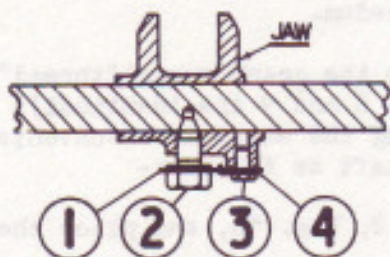
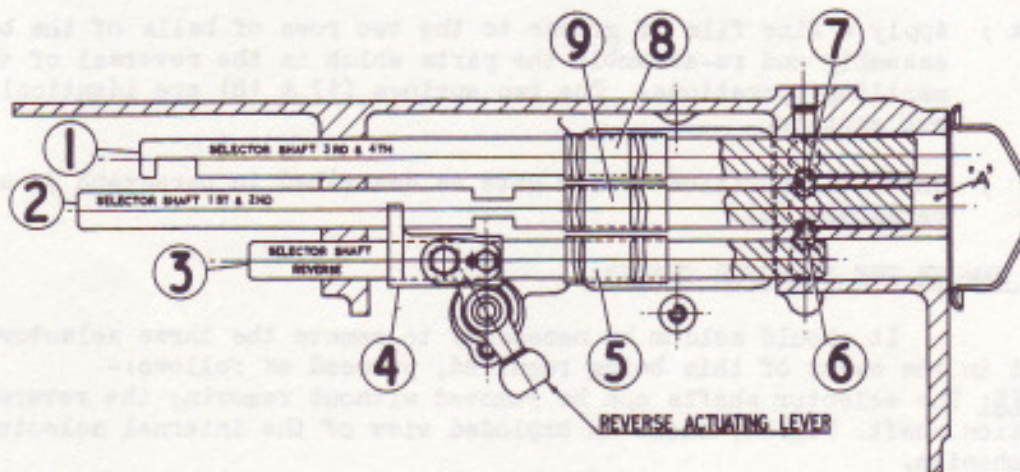

FIG. 16. SELECTOR JAW - METHOD OF LOCKING.
FIG. 17. SECTION - SELECTOR SHAFTS.
With the 3rd and 4th speed selector shaft 1, Fig. 17, in its neutral position, rotate the 3rd motion shaft if necessary, until one of the two keys 31, Fig.3, is opposite to the side cover opening of the gearbox, and through this opening, hold the 4th speed cone squarely on the taper of the first motion shaft (gear). With feeler gauges, measure the clearance between the end face of the "step" in the key (i.e. the end face of the portion projecting above the grooved spline of the shaft) and the rear face (driving tongue) of the cone. The later type bridge shaped keys (RG-5471), are fitted to 3rd motion shafts with strengthened splines are not "stepped", therefore the measurement is taken from the extreme end face of the key/s.
Place the 1st and 2nd speed selector shaft 2, Fig.17, in its neutral position. Hold the 2nd speed cone 7, Fig.3 squarely on the taper of the 2nd speed gear (20), and with the feelers, measure that there is a clearance of .015" to .025" (.038 - .063 m/m) between the end face of one of the flat keys (22) and the rear face (driving tongue) of the cone.
- (v) The next operation is to unlock the jaws on the selector shafts - two on the reverse and one each on the 1st and 3rd shafts. Fig.16, shows the method of locking. To unlock, bend back the tab of the lockwasher (4), remove the setscrew (3), the locking plate (1) and the locating screw (2).
- (vi) First unlock the forward jaw 4, Fig.17, on the reverse selector shaft and then the rear one and withdraw the shaft.
- (vii) Unlock the jaw (9), on the 1st and 2nd speed selector shaft and withdraw the shaft. Carry out the same procedure for the 3rd and 4th speed shaft.
- (viii) Place a piece of wire, suitably bent, into the outer rear bore of the gearbox which carries the rear end of the 3rd and 4th speed selector shaft and press the interlocking ball 7, Fig.17, into the centre bore 'A', and recover the ball. Place the wire in the bore nearest to the centre of the gearbox and carry out the same operation and recover the ball(6). These two balls have a diameter of .3125"
- (ii) Insert the reverse selector shaft into the gearbox and "thread" on the jaw, 5 Fig. 17, (the three jaws 5, 8 and 9 are identical), then the reverse actuating jaw (4). Holding the shaft in a convenient position, fasten the jaw (5) to the shaft as follows:-
- Fully screw in the locating screw 2, Fig. 16, and place the locking plate (1) in position.
- Place a new lockwasher (4) on to the locking plate. Fully screw in the setscrew (3) and bend up the tab of the lockwasher to lock.
- Now fully insert the shaft into position and fasten the reverse actuating jaw (4), in precisely the same way. Then move the shaft into approximately its neutral position.
- (iii) Place one of the two .3125" diameter balls (6 Fig.17) in the centre bore ('A'), and with a piece of wire, manoeuvre it until it engages with the spherical recess in and near the end of the reverse selector shaft.
- (iv) Insert the 1st and 2nd speed selector shaft and fasten the jaw (9) as described above. Position the shaft so that the jaw is in line